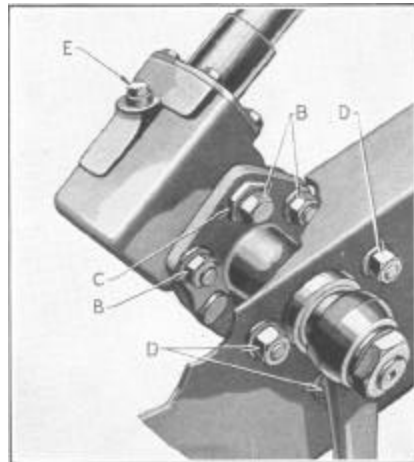

Figure 15
The mesh between the worm and sector of the gear is adjusted by moving the housing cover. To adjust, loosen the four (one not shown) housing cover stud nuts (B), Figure 15, one-quarter turn.
injected after removing filler plug (E), Figure 15, and should be done with change of season.